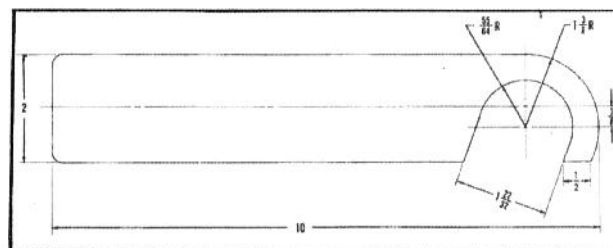

Fig. 31 - Countershaft Thrust Washer Tool
2. Hook the tool, shown in Fig. 31, around the countershaft gear fiber thrust washer.